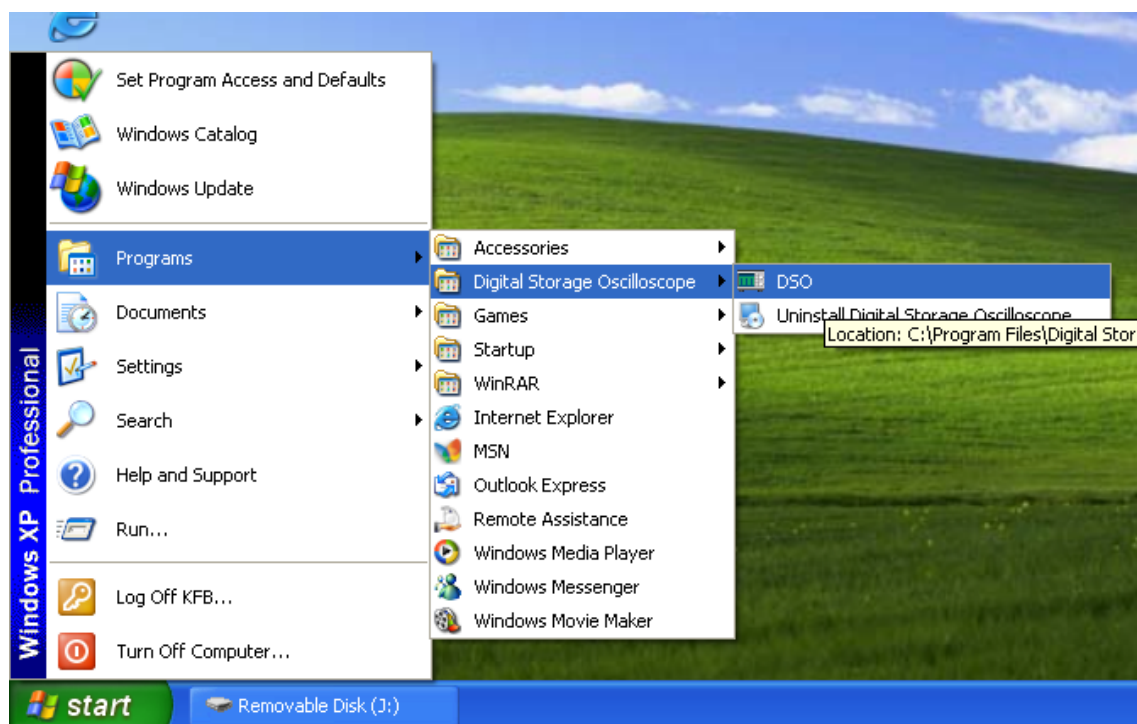

Fig 1-9
2. Alternatively, you can run the software by going through START → Programme → Digital storage oscilloscope → DSO, as shown in Fig 1-9.